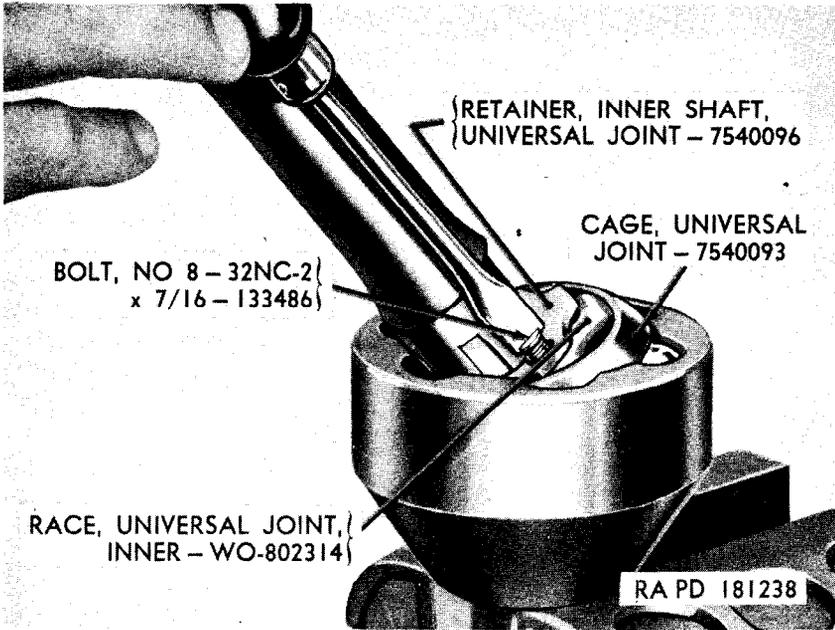

Figure 102. Removing front axle universal joint inner shaft retainer.
- (1) *Remove universal joint inner shaft retainer.* Remove the three bolts (fig. 102) which secure the universal joint inner shaft retainer to the universal joint inner race. Pull the inner axle shaft out of the inner universal joint race. Remove inner shaft snap ring and slide the universal joint inner shaft retainer from axle shaft.
- (2) *Remove universal joint balls.* Push universal joint cage down on one side of outer axle shaft until opposite side of universal joint cage is out of outer axle shaft. Use brass drift and
- (4) *Install inner axle shaft*. Slip the universal joint inner shaft retainer on the inner axle shaft and secure it in place with the inner shaft snap ring. Insert inner axle shaft in inner universal joint race. Secure universal joint inner shaft retainer with three new No. 8-32NC-2 x $\frac{1}{16}$ bolts (fig. 102).